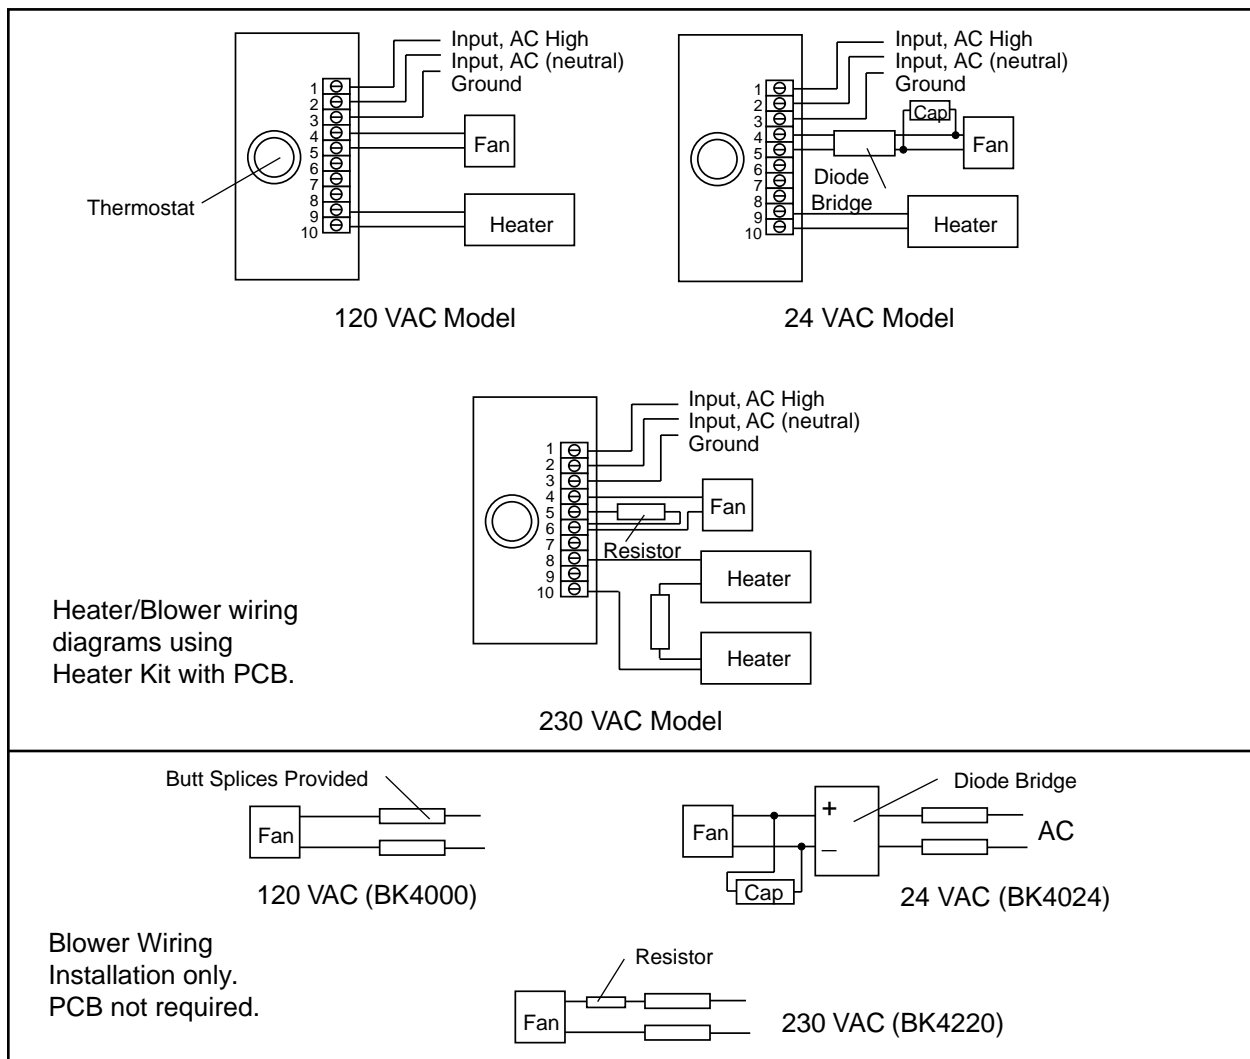

Figure 2. Blower Kit Wiring Diagram
3. Wire according to the wiring diagram in Figure 2.
NOTE: When used with a heater kit (and PCB), the blower can be wired into the terminal block on the PC Board (see Figure 2). With the blower kit only, the PCB is not necessary.
The following items are supplied in the blower kits. Refer to Figure 2 for wiring information with the use of the heater kit PCB board, and without.